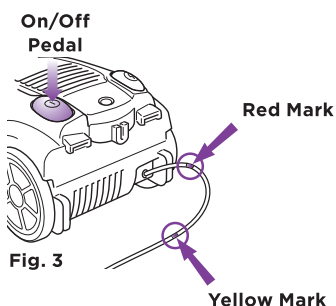

Fig. 3
- 2 Pull the power cord out from the rear of the vacuum and plug it in. **DO NOT** extend past the yellow mark as this indicates the end of the cord is near and **DO NOT** pull beyond the red mark. (Fig. 3)
- 3 First turn the vacuum 'On' by stepping on the On/Off pedal. (Fig. 3)